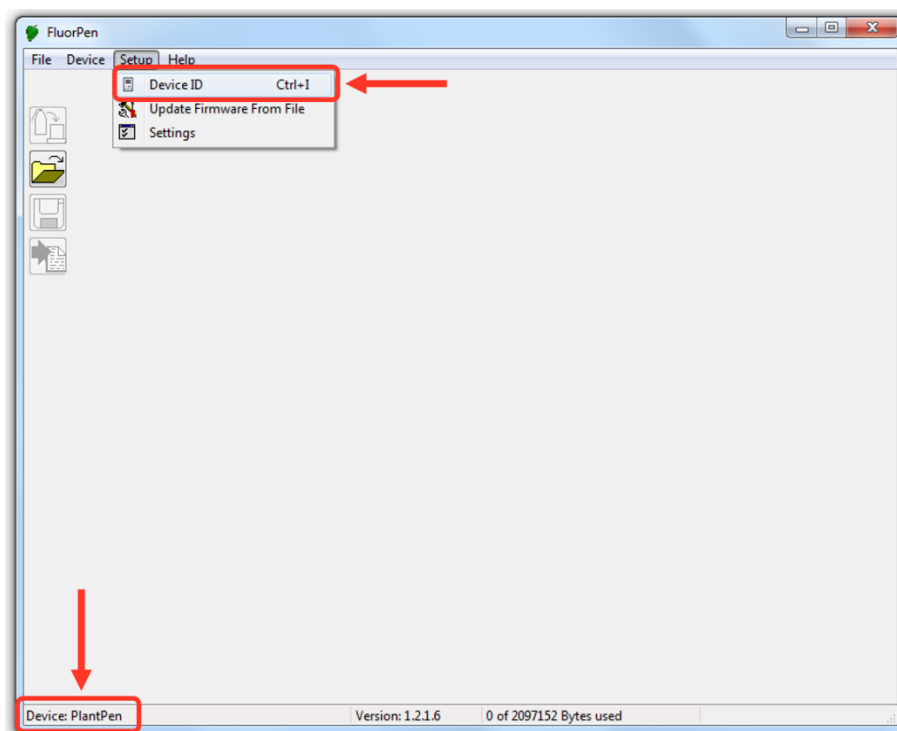

Fig. 12 Connecting PlantPen with Software.
5. Select: **Setup > Device ID (Ctrl+I)**. If properly connected, the message "Device: PlantPen" appears in the bottom part of the screen (Fig. 12).